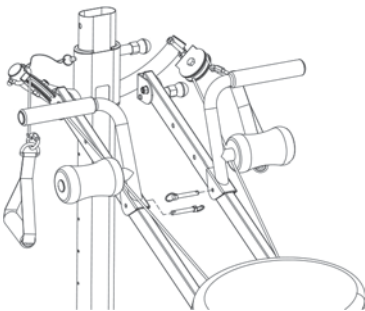

Fig. 3
3. Insert the 2 Short Hitch Pins through the holes on the Wing Attachment brackets and the holes on the rails, as shown in Fig. 3.